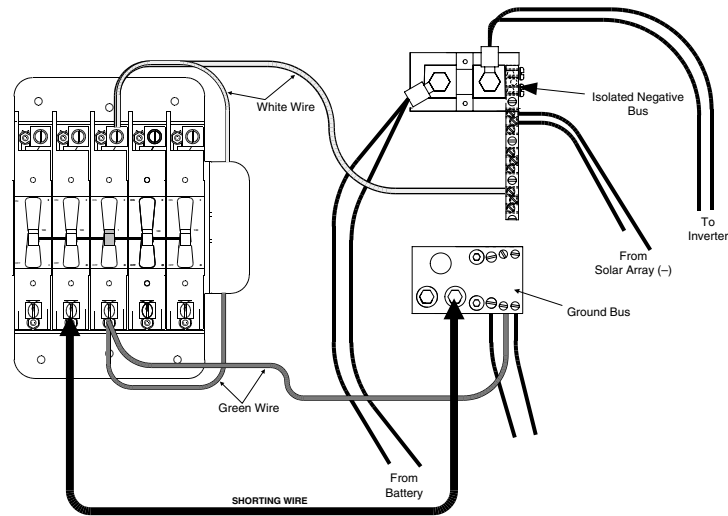

Figure 12
- Use a heavy gauge "U" shaped wire, and momentarily connect it between the PV array #1 terminal and negative terminal of the 1 amp PVGFP breaker. Refer to Figure 12.